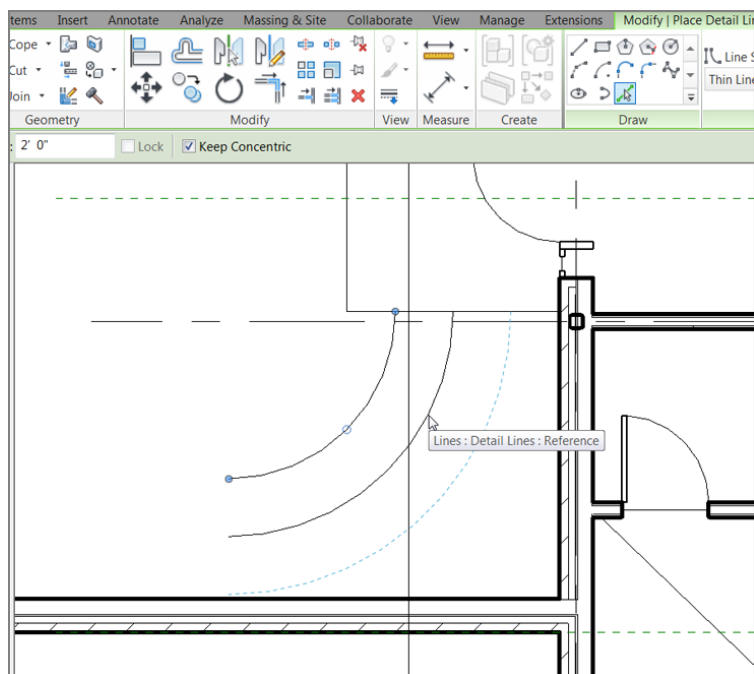

FIGURE 10.37: Adding two more arcs based on the centerline of the first
10. On the Options bar, add an increment of $2'-0"$ (600mm) to the Offset field (see Figure 10.37).
11. Offset the center arc to the right and then to the left, forming a $4'-0"$ (1200mm) overall winder, as shown in Figure 10.37.